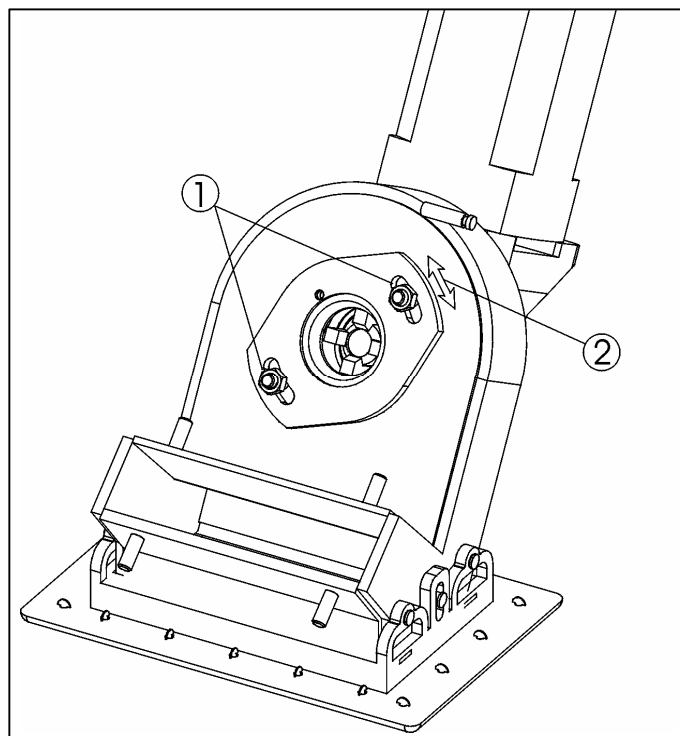

Fig. 7.2
- The position of the distribution sleeve is determined by the distribution sleeve clamping plate (2). In the central position the upper edge of the distribution sleeve window is at 11 o'clock (see Fig. 7.2). You can correct the setting in both direction by 12.5° rotation.
- Undo the two nuts (1) and adjust the re-set the distribution sleeve clamping plate (2).
- Fix the distribution sleeve clamping plate by tightening the two nuts (1).